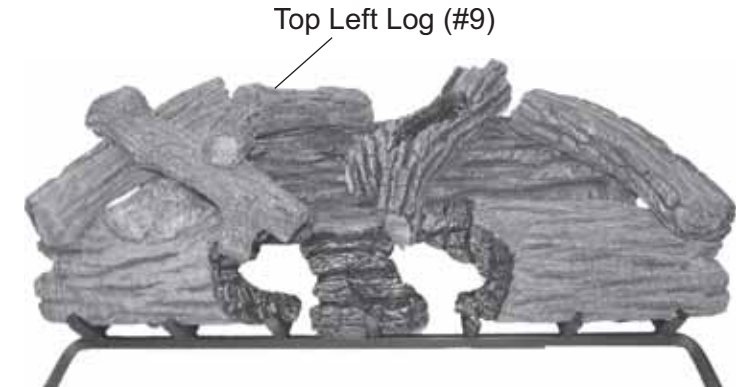

Figure 44 - Installing Top Left Log (#9)
10. Install top left log #9. *See Figure 44.*